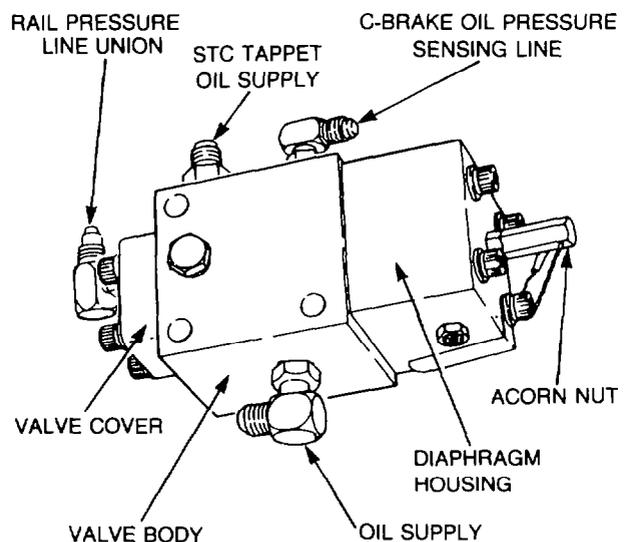

Figure 134 — STC Control Valve
- b. Tag and remove the oil lines from the STC control valve unions (see Fig. 134).
- i. Install the unions in the STC control valve (see Fig. 134) ensuring that the unions are aligned correctly.